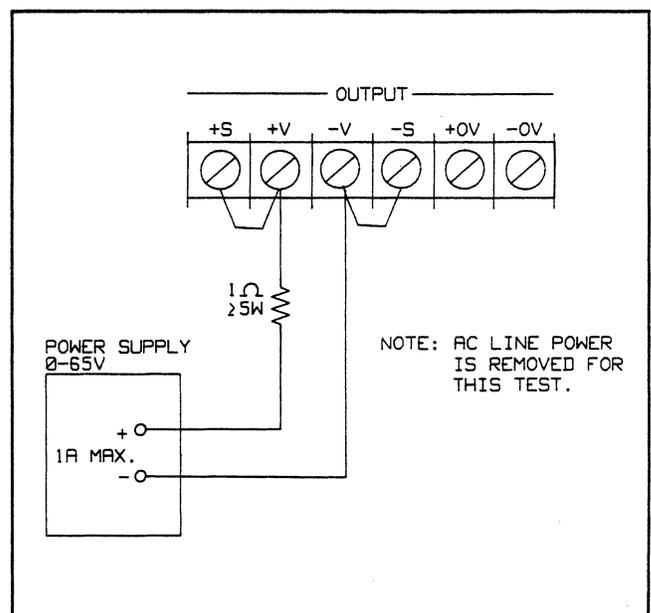

Figure 3-10. Fixed OV Protection Test Setup
- Turn off the supply and connect an external power supply to the output to be tested as shown in Figure 3-10.